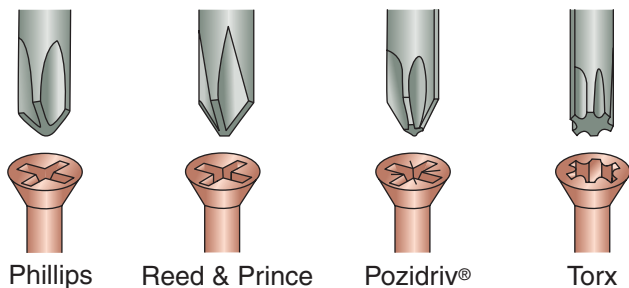

Figure 3-22 These screw head shapes are used in many applications on power equipment engines.
- **Phillips screwdriver tips.** (Figure 3-22) These have a crossed point but a somewhat blunt end. These tips have good holding power and are less likely to slip than slotted tips. The common sizes of Phillips screw head slots used in power equipment engines work are #1, #2, and #3.